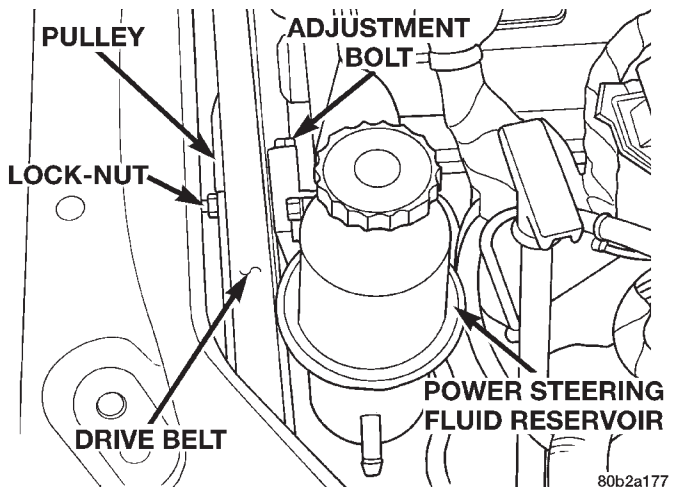

Fig. 6 Drive Belt Tensioner Lock-Nut And Adjustment Bolt
(7) Let remaining power steering fluid drain from the power steering pump.
(8) Loosen the lock-nut (Fig. 6) on the front of the pulley for the serpentine drive belt tensioner.
(9) Using the adjustment bolt (Fig. 6) remove the tension from the drive belt for the power steering pump.
(10) Remove the drive belt from the power steering pump pulley.
(3) Tighten the power steering pump mounting bolts to a torque of 28 N·m (250 in. lbs.).
(4) Install the drive belt on the power steering pump pulley. Refer to Cooling, Group 7, for required installation and tensioning procedure.
(5) Securely tighten the lock-nut on the pulley of the drive belt tensioner (Fig. 6).